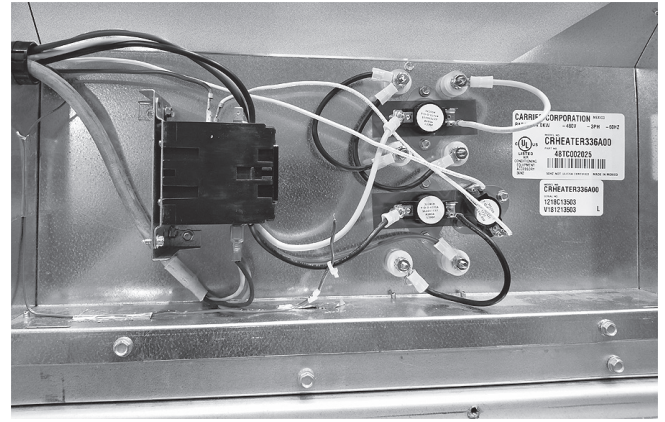

Fig. 13 — Heater Wiring
8. Run conduit through (rigid or EMT) the conduit drip boot in the rain shield bracket to the single point box. Provide an appropriate fitting to connect the conduit to the single point box wall and ground appropriately. (See Fig. 13.) Drip boot eliminates the need for watertight conduit fittings at the single point box.